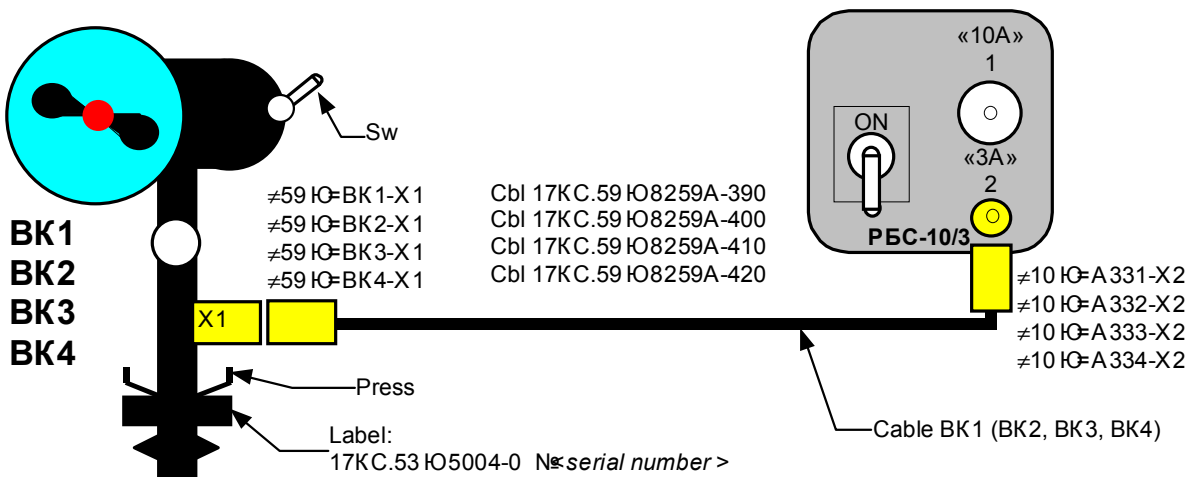

Figure 4.2.6 [BK1], [BK2], [BK3], [BK4] Connection Diagram
2. [BK1] ([BK2], [BK3], [BK4]) INSTALLATION (see Figure 4.2.6)
5. [BK1] ([BK2], [BK3], [BK4]) REMOVAL (see Figure 4.2.6)